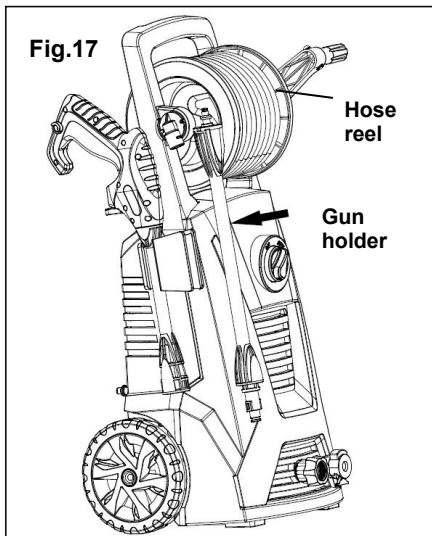

Fig.17
2. Storage the trigger gun and spray lance on the gun holders (Fig.17).